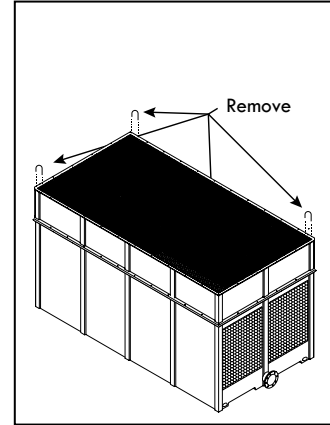

Figure A-86: Removing U-bolts from the Lower Body section for a modular tower (RTGM-D, RTGM-E, RTGMTC-G & RTGMTC-H)
- L. Only for RTGM-D, RTGM-E, RTGMTC-G & RTGMTC-H models:** Remove U-bolts from Lower Body section before installing the next section (see Figure A-86).